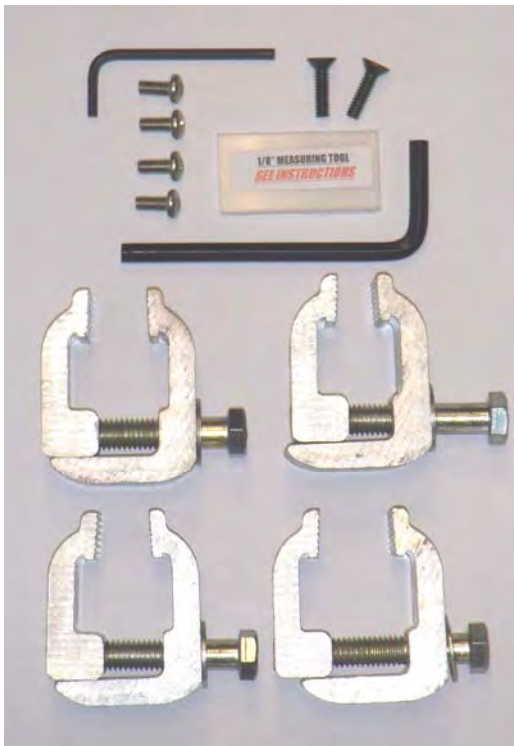
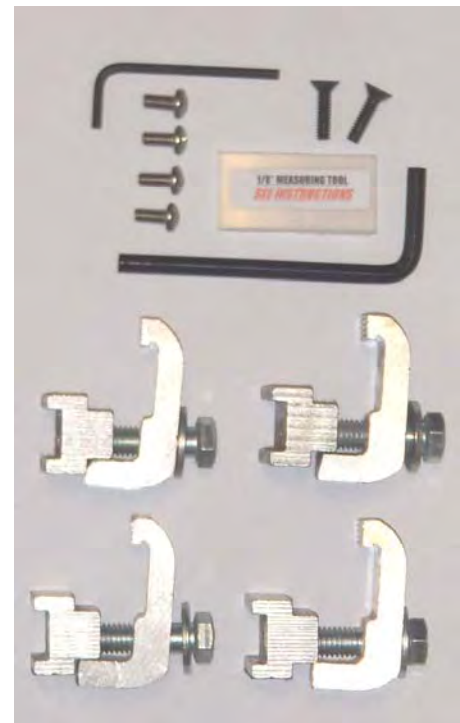

Figure 1
Figure 2
If the Tundra **does not** have the deck rails, then the mounting hardware used is shown in **Figure 1**
If the Titan **does** have the deck rails, then the mounting hardware used is shown in **Figure 2**
Remove and save the black plastic cap at the rear of the Deck Rail track system on both sides of the truck (**Figure 1**). Loosen and slide out the movable truck tie downs on each side of the bed. Insert (1) mounting cleat into the track system on each side, position it about 15" from the front of the bed. (**Figure 2**) **Important: Hole should be toward bottom of channel as shown. Then re-insert the tie down clamps on each side of the bed, before inserting 2nd cleat.** After putting tie downs back into bed, insert 2nd mounting cleat into track system on each side, positioning it approximately 8" from tailgate. Finish by re-inserting the black plastic cap into the rear of the track system.